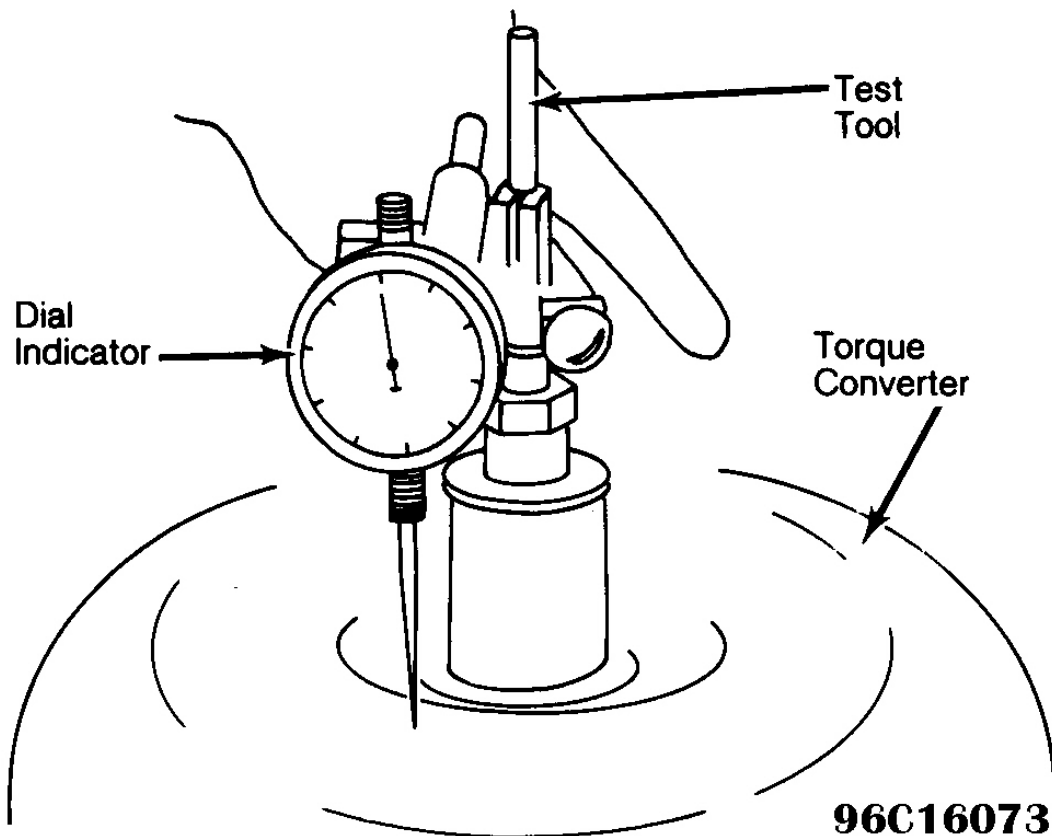

Fig. 12: Checking Torque Converter Turbine & Stator End Play
1. Insert Tester (T80L-7902-D) into converter pump drive hub until it bottoms. Expand sleeve in turbine spline by tightening threaded inner post of tester until it is securely locked into spine. See **Fig. 12**.